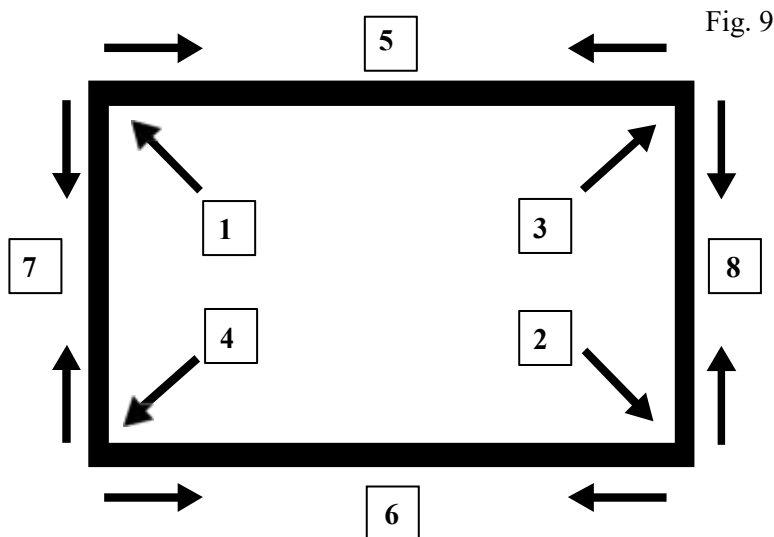

Fig. 9
2. Once the screen material is fully extended, secure the material by snapping the buttons onto the frame studs. Fasten the buttons in the following order as shown on **Fig. 9**.